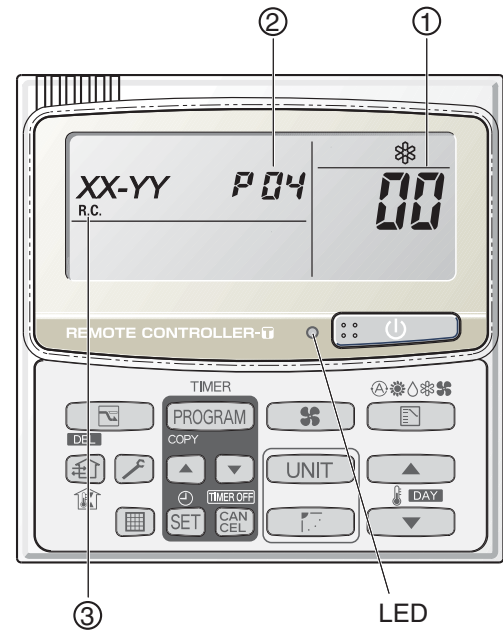

Fig. 3
Locations where ①, ②, and ③ are displayed as shown in Fig. 3.